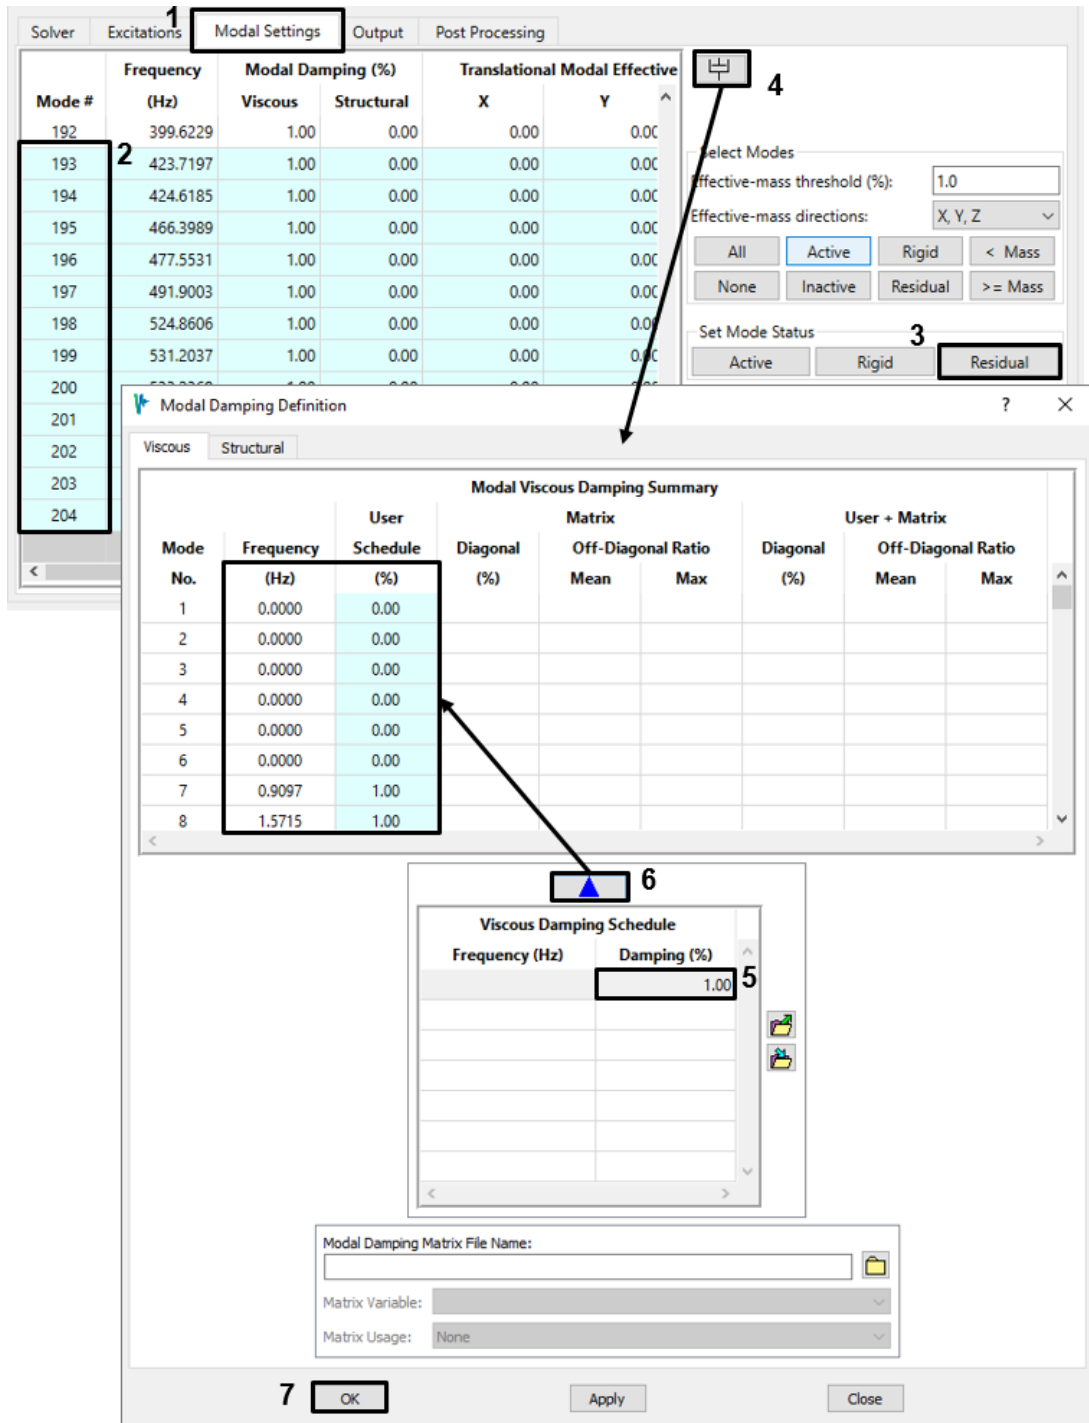

Figure 4-97. Use the damping schedule to assign 1% damping to all flexible modes.
- Go to the *Modal Settings* tab. Make sure to designate the modes above 400 Hz as residual vectors and then set the damping. This model has too many modes to set individually, so bring up the damping dialog and use its damping schedule to set the damping of all modes to 1% (Figure 4-97). Rigid body modes will remain at 0% damping.